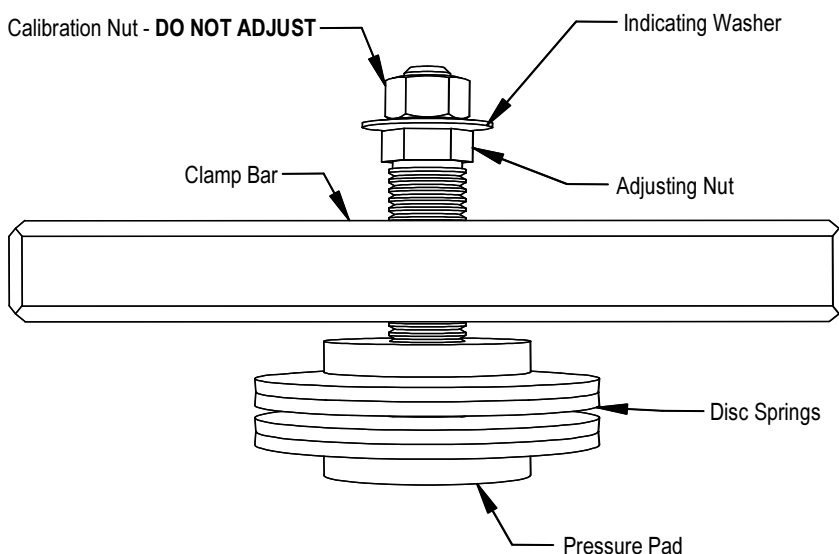

Figure 5.15 – Clamp Head Illustration
Never rotate the calibration nut located outside the indicating washer at the end of the threaded rod. The rotation of the outer nut will affect the torque calibration, which is factory set. Only adjust the inside nut. (See Figures 5.15 and 5.16.)
3. The heatsink with the thermal sensor must be removed from the PowerCage. Remove clamp load (refer to Figure 5.15).